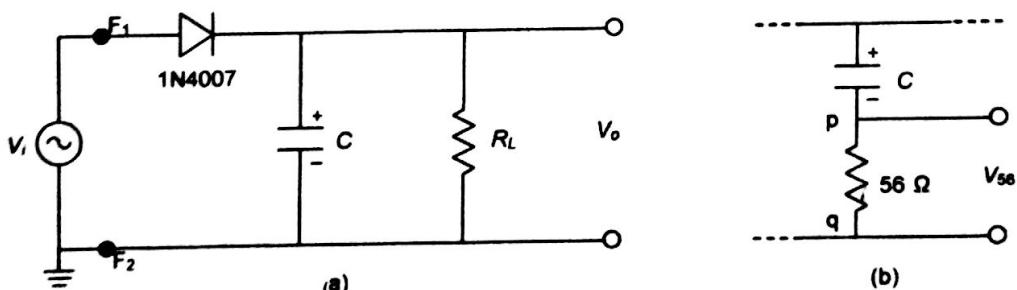

Fig. 2.1 Half-wave rectifier.
2. Set up the circuit as shown in Fig. 2.1(a) without the capacitor C, taking $R_L = 2.2 k\Omega$.
3. Now, connect the function generator to the circuit at points F₁ & F₂ as shown in Fig. 2.1(a).
1. Now connect a capacitor $C = 22 \mu F$ in the circuit with correct polarity as shown in Fig. 2.1(a).
4. Connect a 56Ω resistance in series with C of Fig. 2.1(a) as shown in Fig. 2.1(b). The points across this 56Ω resistor are marked as p and q.